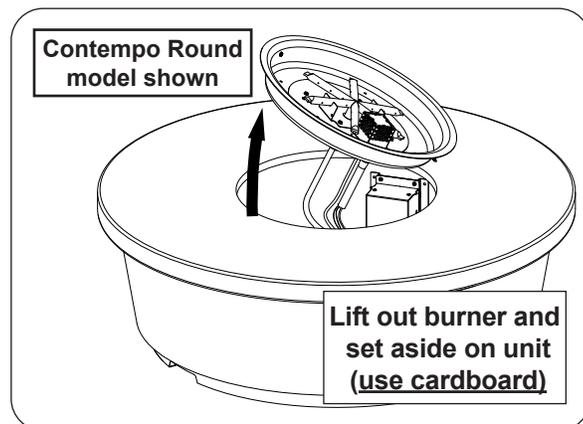

Fig. 54-1 Gain access to interior (if needed)
1. The burner will need to be partially removed. Prior to removal, rest cardboard over the surface of the table top (to prevent damage to the finish when the burner is set aside on the unit). Remove all media. Use a $5/16$ " nut driver to partially unfasten the 2-4 screws found on the burner assembly. Then carefully lift out the burner and set it off to the side. See Fig 54-1.